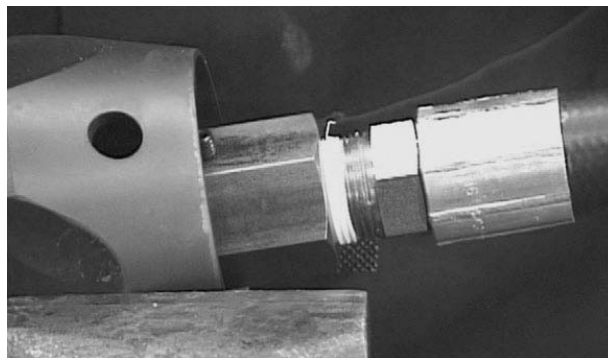

Figure 9-20. Teflon Tape on Hose Fitting
- Apply teflon tape to the external threads of the hose fitting at one end of the Whip Hose. See Figure 9-20.